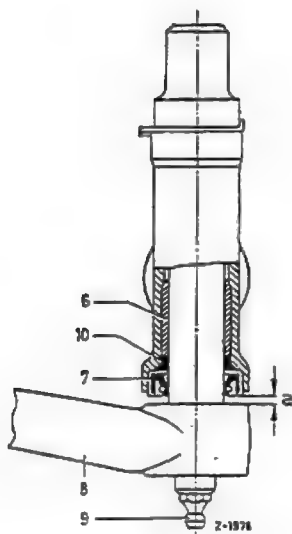

Fig. 46-11/3
6. Press a new grease seal (7) into the trunnion bearing (5) with the sealing lip to the outside (Fig. 46-11/2).